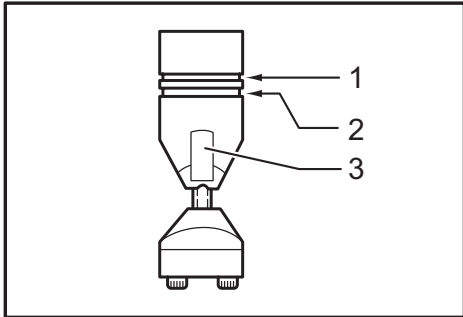

Fig.2
► **Fig.2:** 1. Gauge for cutting stainless: 1.2 mm (3/64")